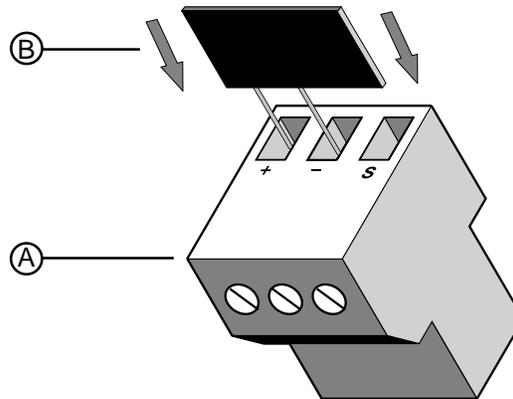

Figure 12: Installing the MCTAS-485 terminator.
1. Using a wire clipper, clip off two of the four wires on the MCTAS-485 terminator (figure 12, B). It does not matter whether you clip the left pair or right pair.
2. Insert the two remaining wires into the + and – holes on the Enercept meter's removable RS-485 terminal block (figure 12, A).